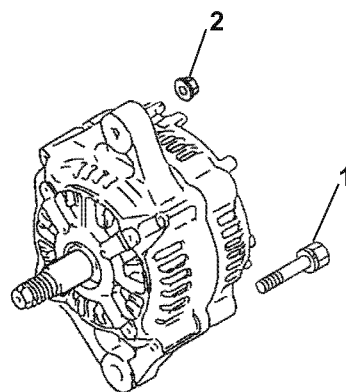

Figure 12-9
7. Remove the two bolts (1, **Figure 12-9**) and two nuts (2, **Figure 12-9**) securing the rear frame housing to the front frame housing.